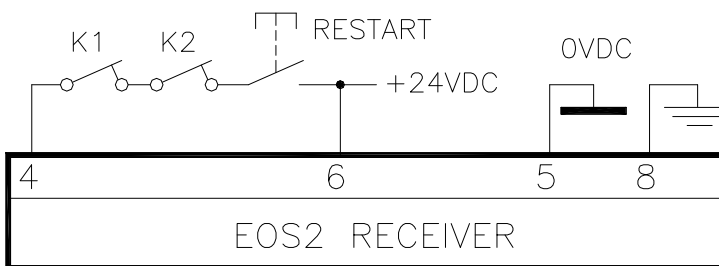

Figure 20 - Manual with K1K2 feedback
-  In the case of manual operation, the RESTART button in series with the NC contacts (feedback) of the external contactors K1/K2 (Figure 20) must also be present.